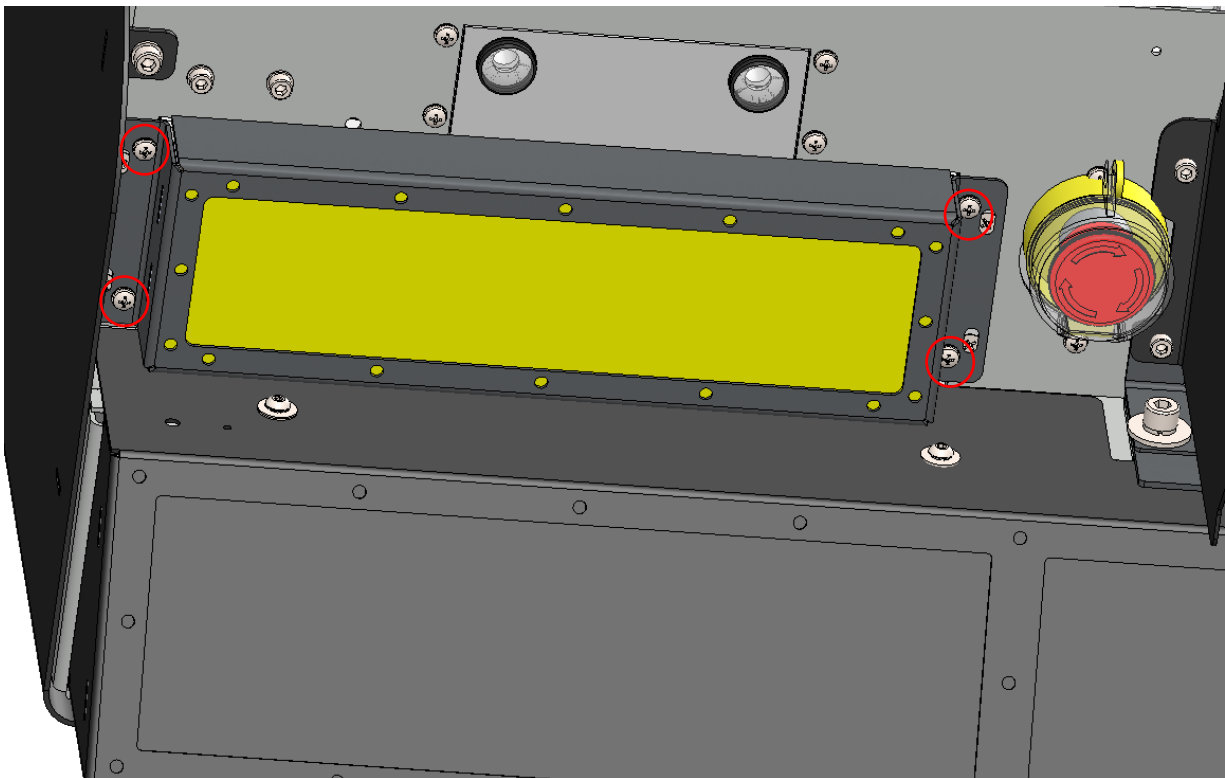

Figure 5.11. Location of screws on the filter housing
1. Remove 4 screws from the filter housing (Fig. 5.11) and remove the filter case.